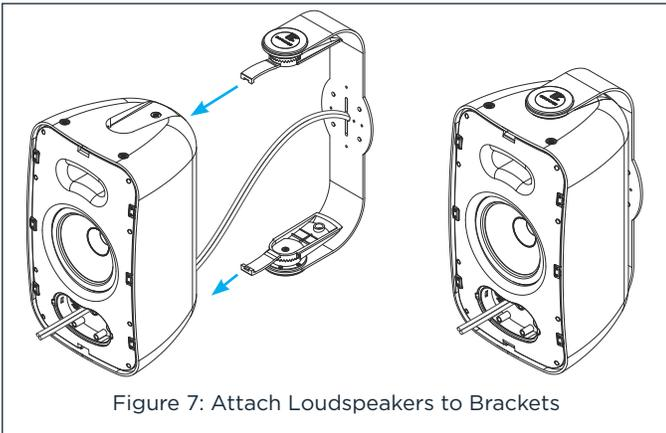

Figure 7: Attach Loudspeakers to Brackets
- Slide the loudspeakers onto the brackets until the locks snap into place (see Figure 7).